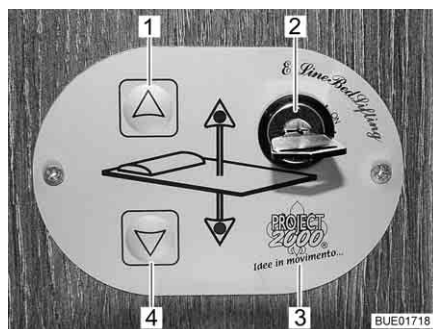

Fig. 124 Control unit
The pull-down bed is raised or lowered using the buttons (Fig. 124,1 and 4) on the control unit (Fig. 124,3). The control unit is protected against unauthorized use with the key switch (Fig. 124,2).
- Turn the key in the key switch (Fig. 124,2) by 90° in a clockwise direction to position "On". The control unit (Fig. 124,3) is activated.
- Press the arrow key (Fig. 124,4) and keep it pressed until the pull-down bed has moved down into the desired position.
- Press the arrow key (Fig. 124,1) and keep it pressed until the pull-down bed has moved down into the final upper position.
If it is no longer possible to move the pull-down bed with the arrow keys (Fig. 124,1 and 4), first of all check the fuse in the front wall-mounted cupboard on the left-hand side of the vehicle or at Reserve 3 on the transformer/rectifier (see section 8.9.1). If the fuse is okay and it is still not possible to move the pull-down bed, the pull-down bed can be operated manually.